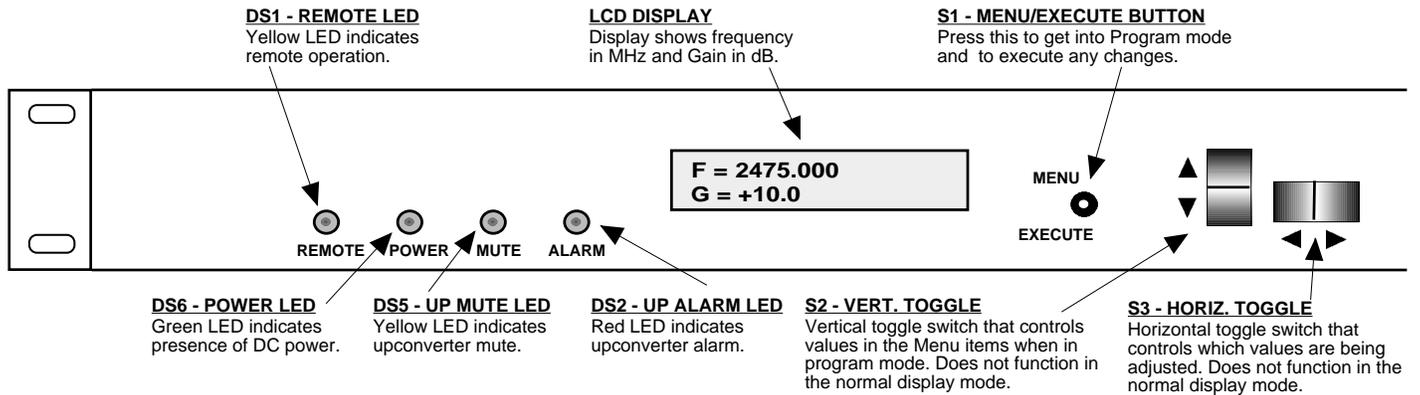

FIGURE 2.3 2015-2026 Front Panel Controls and Indicators
7. Be sure DS6 (green, DC Power) is on and DS2 (red, Alarm) is off (Figure 2.3).
Alarm indications appear on the LEDs (See figure 2.3).